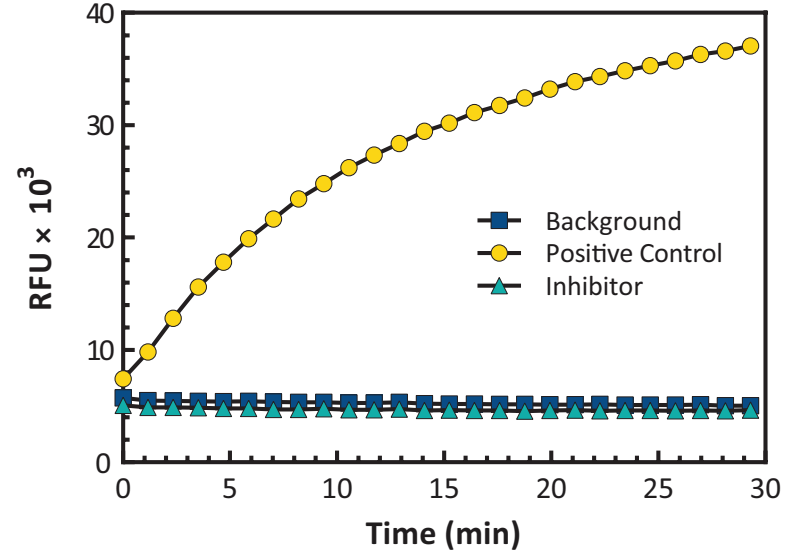

Figure 4. Human polymorphonuclear leukocyte MPO assayed with and without MPO inhibitor.
- a. Plotting the fluorescence values as a function of time to obtain the slope (rate) of the linear portion of the curve. An example of human polymorphonuclear leukocyte MPO assayed with and without MPO Inhibitor over time is shown in Figure 4, on page 17.